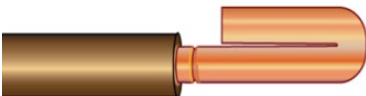
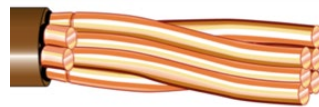

Fig 6. Conductor damaged during insulation stripping
Fig 7. Strands broken during insulation stripping
- Avoid damaging the conductors (Fig 6) or breaking strands (Fig 7) when removing insulation- many cable strippers have an adjustable depth of cut.